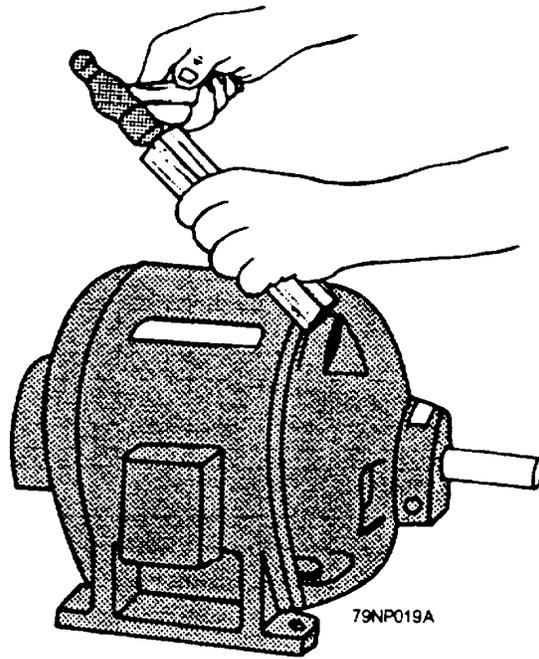

Figure 7-24.—Parting end bells with a hammer and a wood block.
2. When separating the end bells from the frame, use a mallet or block of wood with a hammer (fig. 7-24). Never pry mating surfaces apart with a metal object such as a screwdriver.